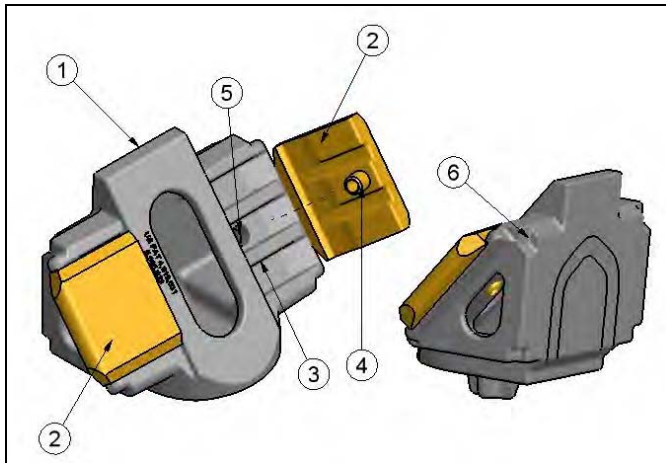

Figure 1
The RFE-53 assembly (Fig. 1) consists of an austempered ductile iron wedge ① and a pair of resilient urethane pads ② affixed to the sloped wings of the wedge. The resilient pads are interlocked to the iron wedge by means of transverse ribs ③ and tapered posts ④, which are tightly retained by tapered holes ⑤ on the wedge slopes. Along each edge of the vertical (wearing) face of the wedge are indicator grooves ⑥, to indicate the allowable wear limit.